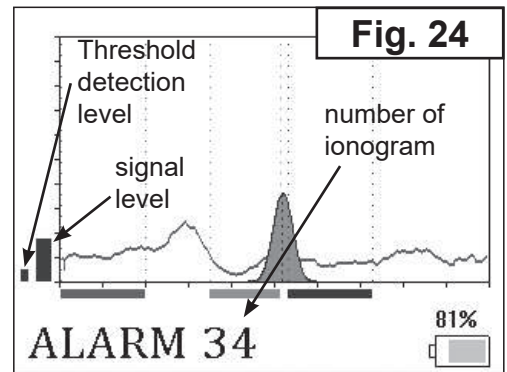

Fig. 24
4. In case of explosives detection the repeated audio signal and the word «ALARM» on the LCD should appear (Fig. 24).
NOTE: If «CONTAMINATION HAZARD» (see Fig 24, 25 on page 13) warning appears immediately remove Metallic Gauze Sampler or swab sampler from sample heater! The EVD will run «self-cleaning» procedure with countdown timer.